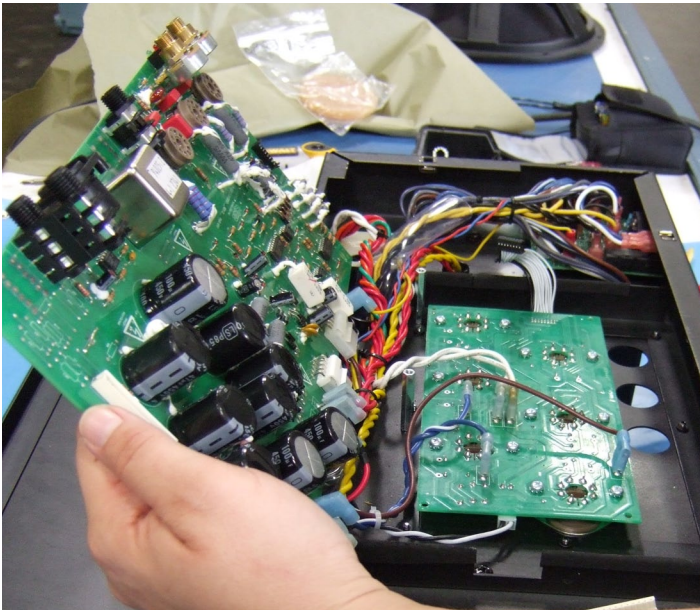

Figure 16a
16. Lift the board from the back to get access to the remaining connections for the power and tube board. As seen in Figures 16a and 16b.